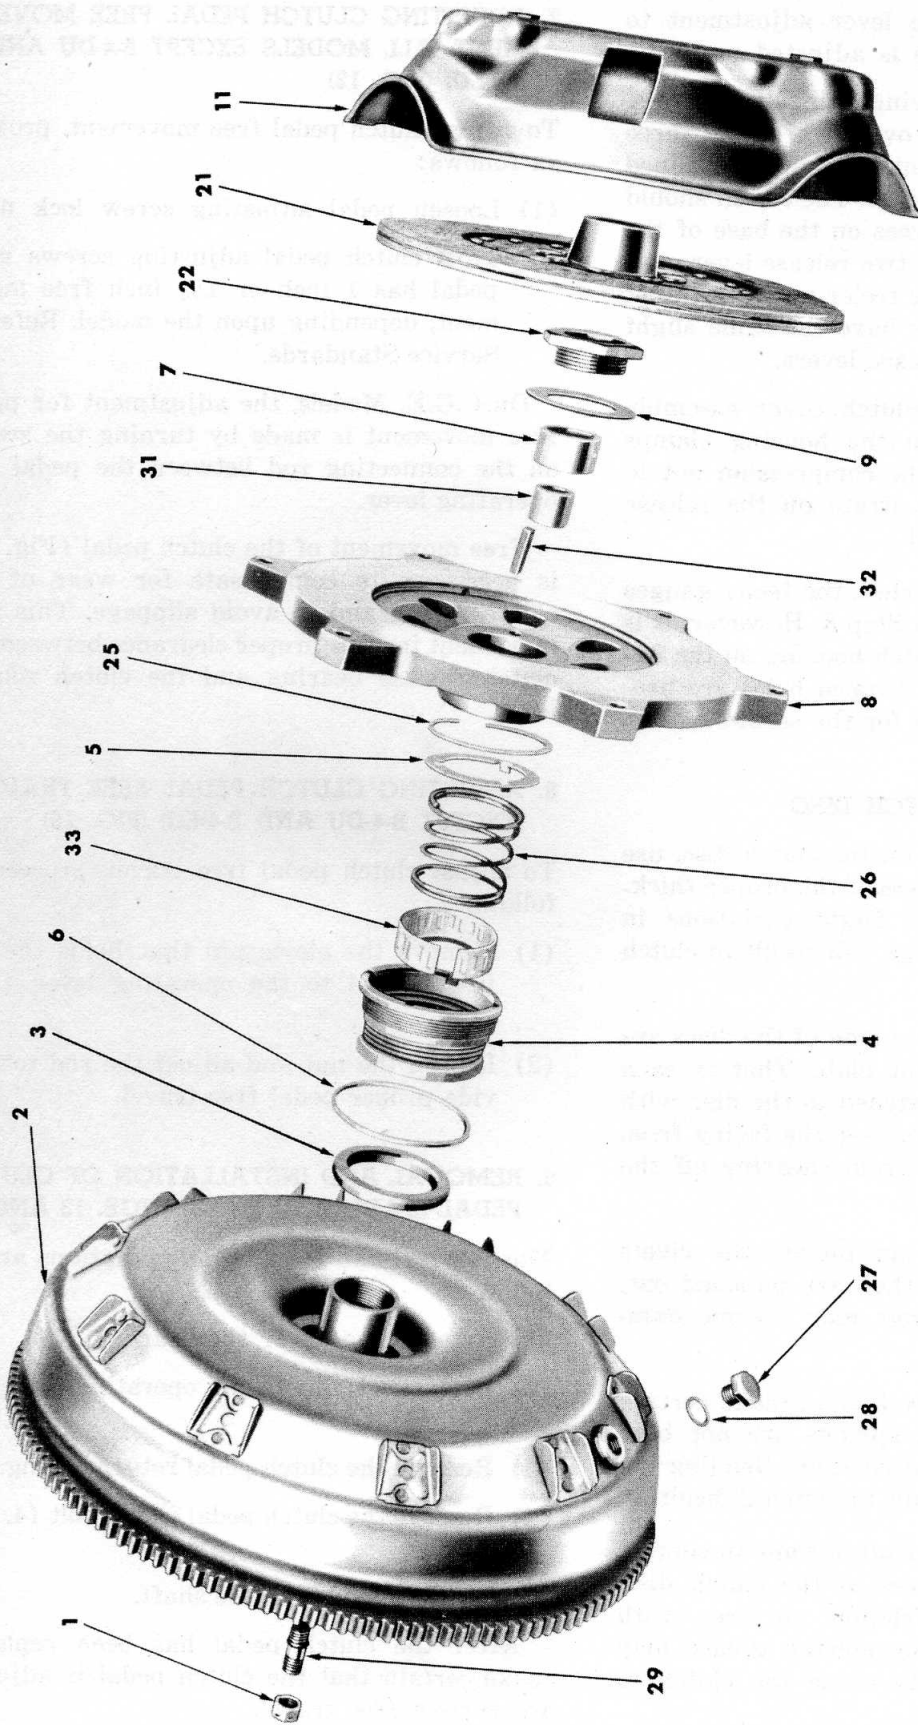

Fig. 11—Clutch and Fluid Drive (Disassembled View)
**4. DISASSEMBLY AND ASSEMBLY OF CLUTCH COVER AND PRESSURE PLATE (FIG. 11, PAGE 10)**